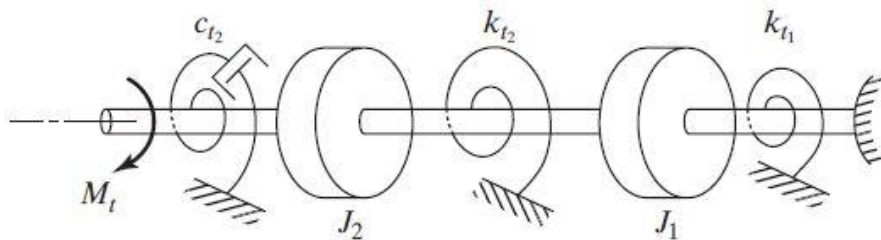

FIGURE 5.21
- 5.2 Derive the equations of motion of the system shown in Fig. 5.21.